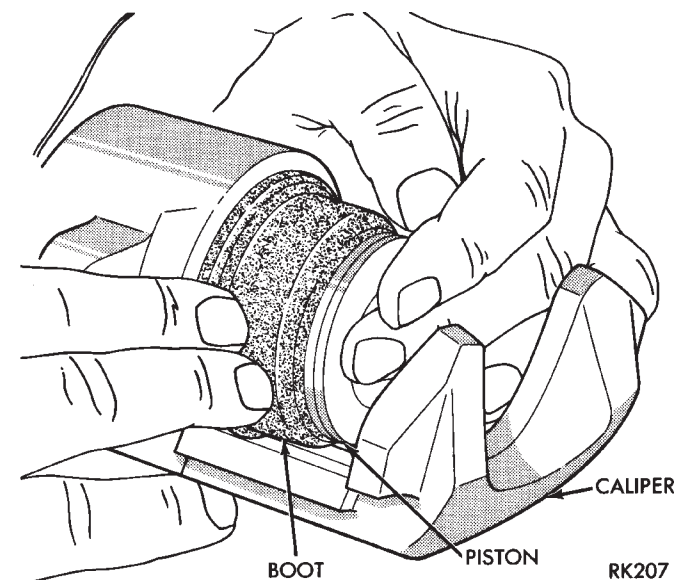

Fig. 164 Installing Piston Into Caliper Bore
(5) Install piston into caliper bore pushing it past the piston seal until it bottoms in the caliper bore (Fig. 164).